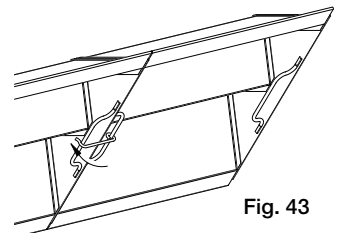

Fig. 43
5. Latch filters together by connecting hooks to handle on next filter; Fig. 43.